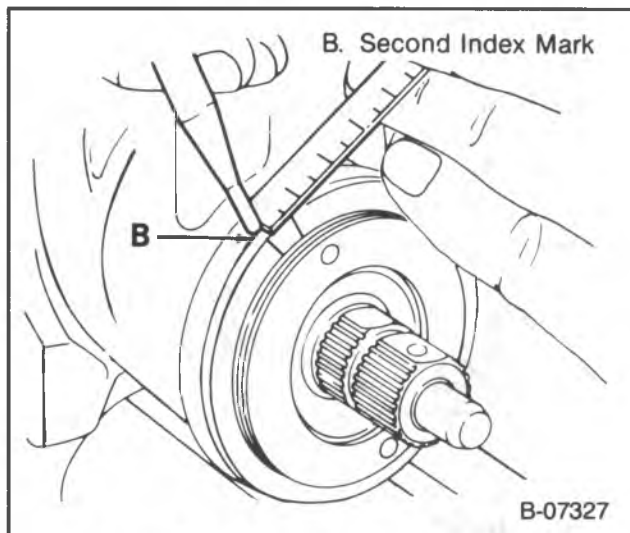

Figure 17 — Remarking the Housing
4. Measure back (counterclockwise) 4.7-6.3 mm (3/16-1/4-inch) from the index mark and mark the housing (figure 17).